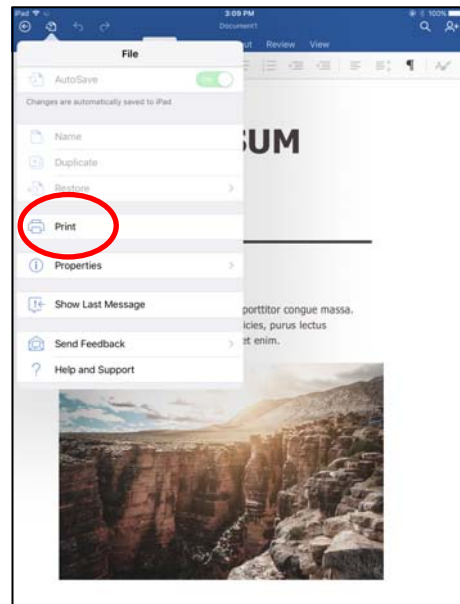

Figure 40
2.4 When the menu pops up, click "Print", as shown in Figure 40.